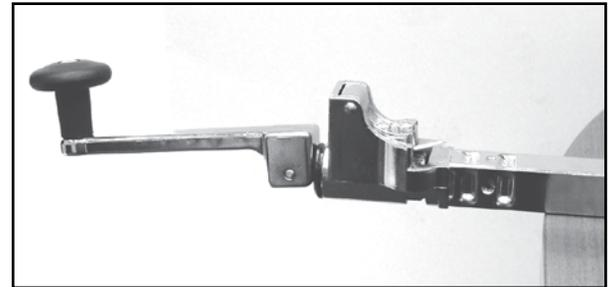
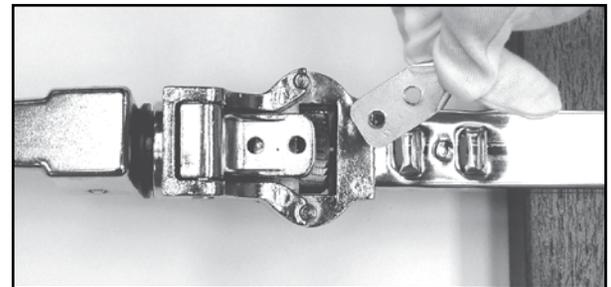

Figure 15
Figure 16
3. Bring handle up to unlock the holder to remove the knife blade. (Figure 15 and Figure 16)